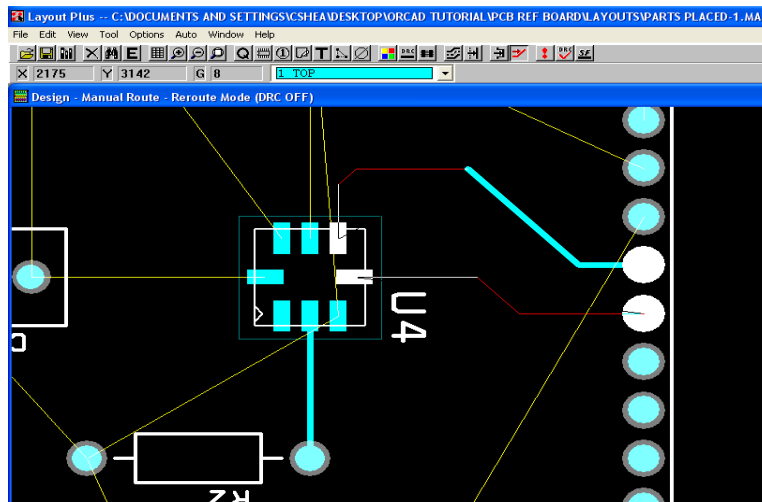

Figure 5.12: Routing a trace in steps by clicking the left mouse button as you go
20. Proceed with routing the wire (*See Figure 5.12*)